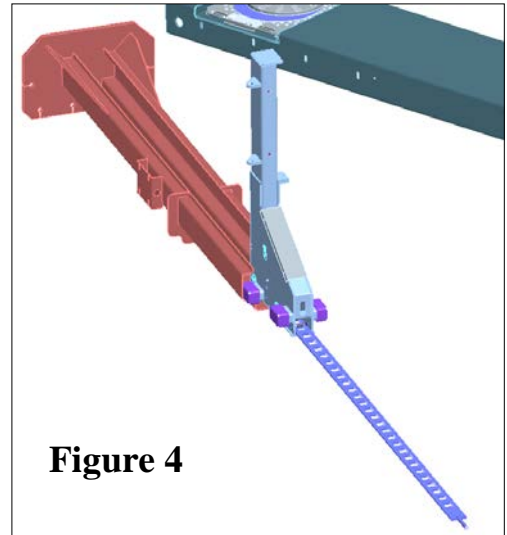
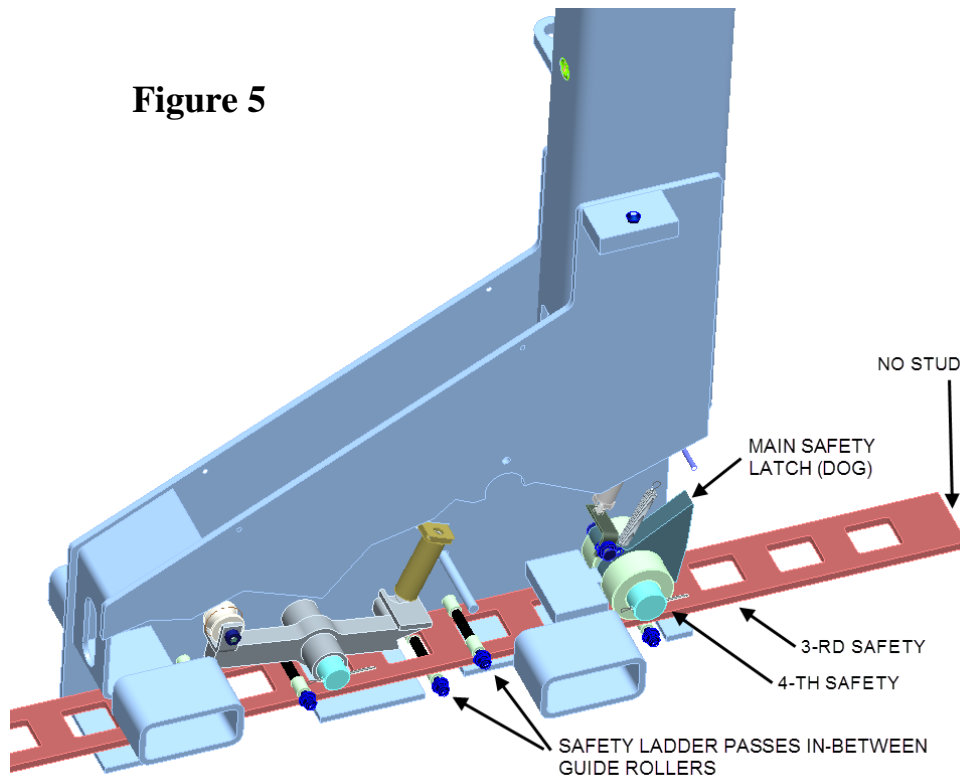

Figure 4
Figure 5
- Position left front cross-member to the end of front left tower, as shown in **Figure 4**.
- Insert safety plate (ladder) into front left cross-member, non-stud end first, as shown in **Fig.4** and **Fig.5** Insert safety ladder until main safety latch (dog) engages into 4th safety cutout. **See Fig. 5**